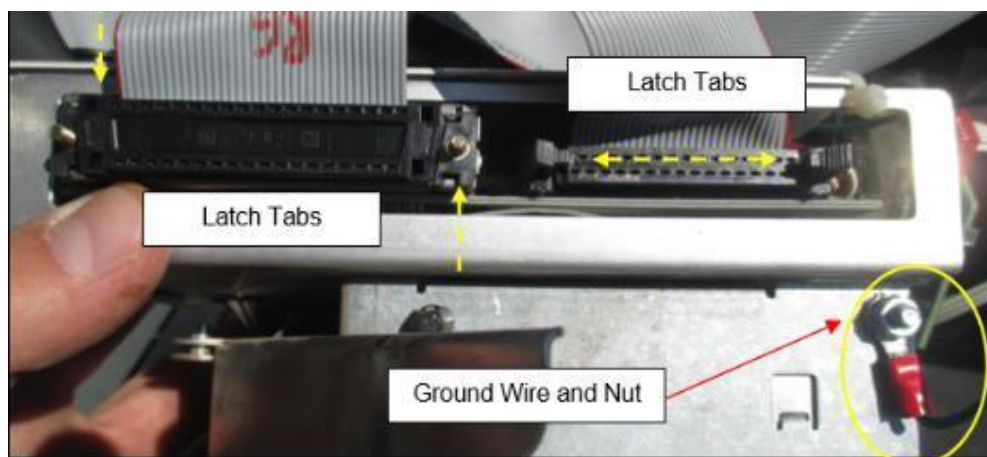

Fig 2.6b – Remove Printer cables and ground wire
- c. For Encore 300 and Encore 500 without a LON cable harness: Unplug both cables attached to the printer by releasing latch tabs. Using a nut driver, remove the 1/4" ground nut, and remove and set aside the ground wire for re-use. (Fig 2.6b)